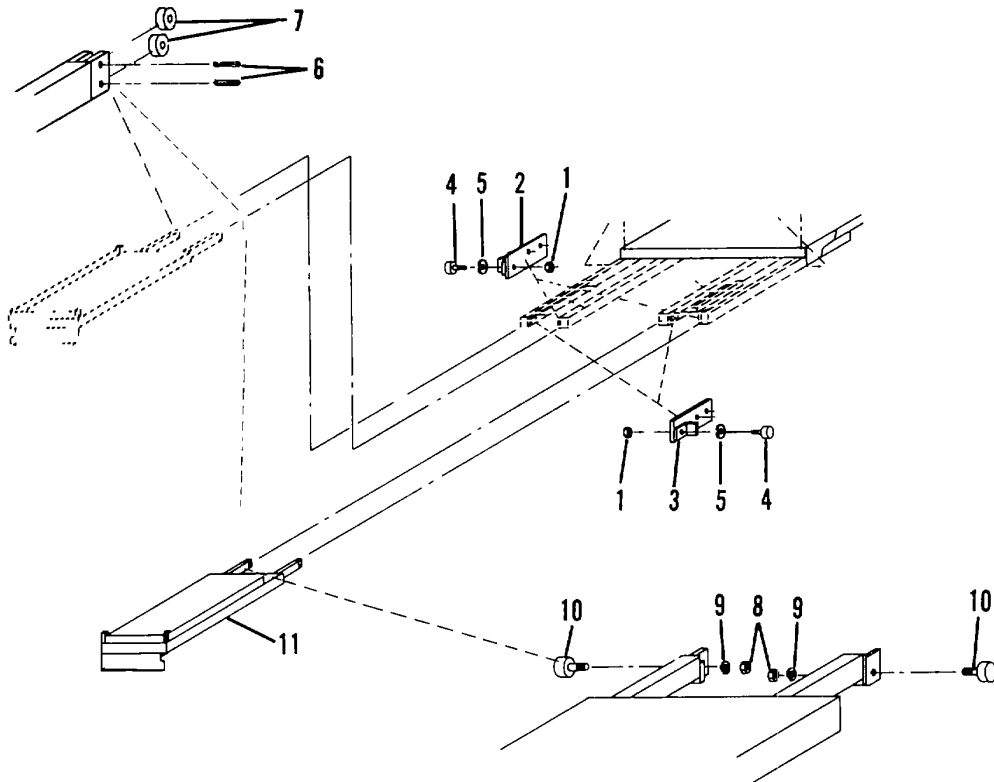

Figure 4-35. Deck Extension Rollers.
- (1) Remove nuts (1, Figure 4-35) from camfollower assemblies (2 and 3).
- (2) Remove rollers (4) and lockwashers (5).
- (3) Remove roll pins (6) and rollers (7).
- (4) Remove nuts (8), and lockwashers (9) and rollers (10) from left side deck extension (11).
- (5) Remove right side roller, repeat steps a(1) through a(4).